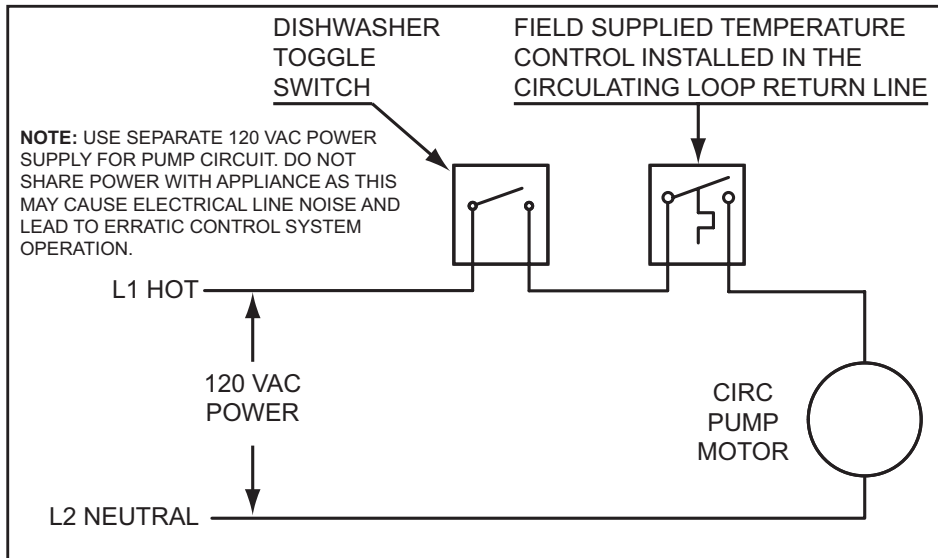

Figure 64
7. If a pump is being installed in a recirculation loop between the water heater and a commercial dishwasher wire according to Figure 64 on page 67.